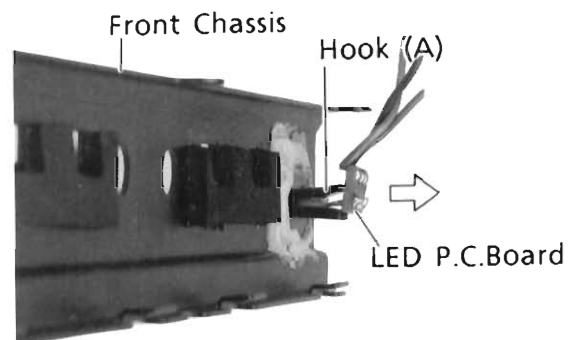

Figure 2
- (2) Remove a hook(A), pull out LED P.C.Board in the arrow direction as shown in Figure 2. The Front Chassis can be removed.